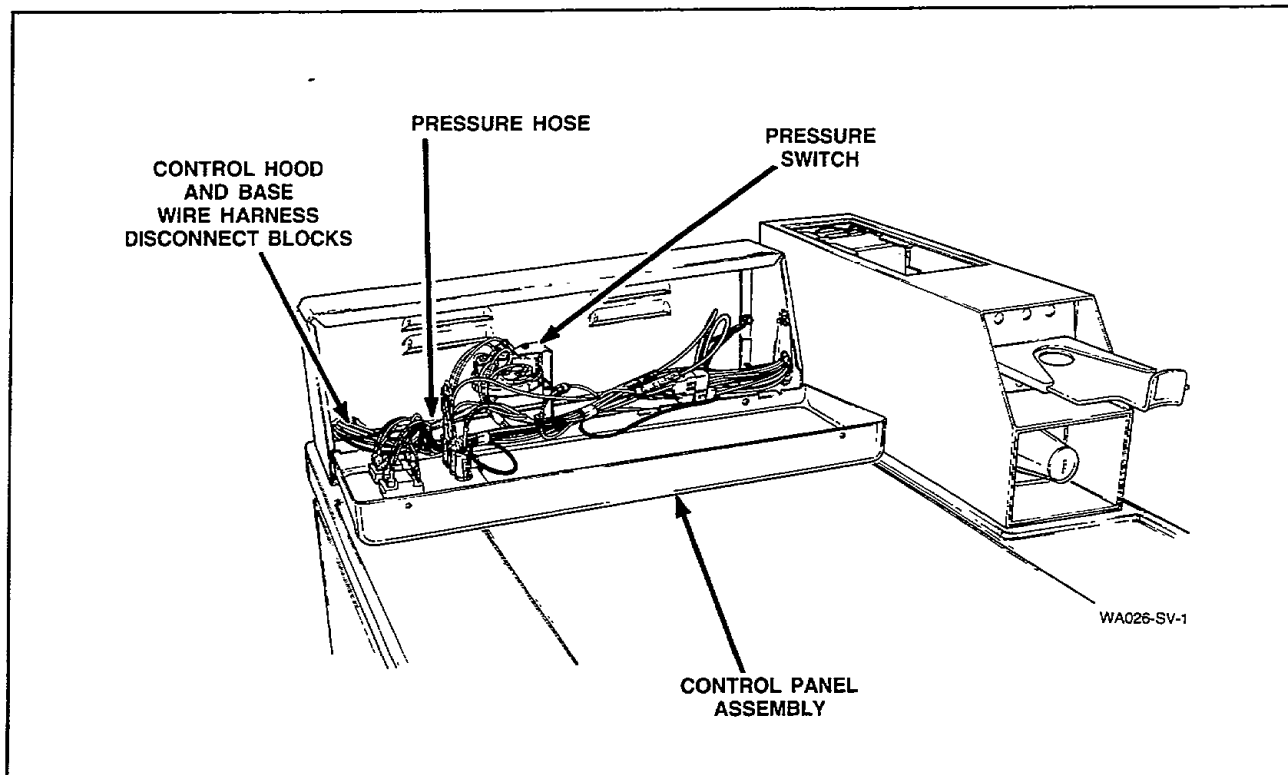

Figure 30
- i. Disconnect control hood harness from base wire harness at the quick disconnect blocks, *Figure 30*.